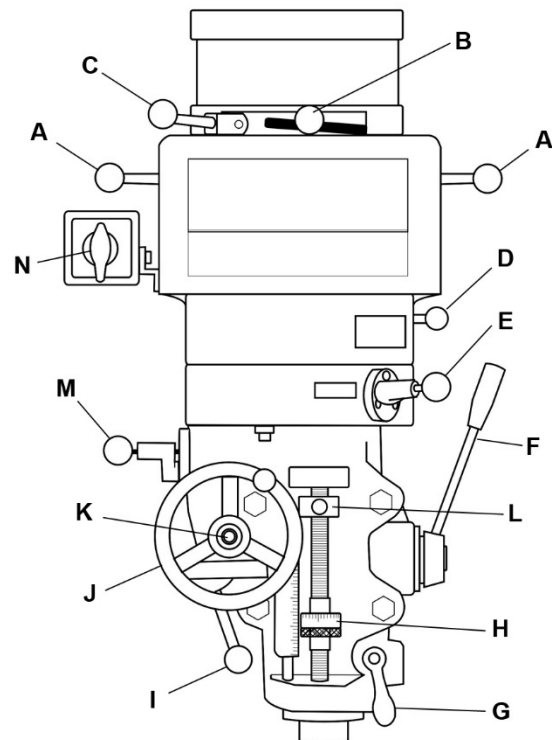

Figure 8
Refer to Figure 8:
- Ensure quill lock (G, Figure 8) is loosened by rotating counterclockwise.
- Set micrometer dial (H) to desired depth.
- Engage auto quill feed lever (D) by pulling out lock knob and moving lever to left hole.
- Select feed rate (M).
- Select feed direction (K).
- Engage feed trip lever (I) by pulling away from head assembly.
**WARNING** Verify that manual fine feed handwheel (J, Figure 8) has been removed for power feeding. Failure to comply may cause injury.
- Loosen knurled lock nut on micrometer nut (H).
- Use Coarse Feed Handle (F) to advance quill to the point where the feed should stop.
- Engage Feed Trip Lever (I) by pulling it away from head assembly.
- Adjust Micrometer Adjusting Nut (H) against Quill Stop (L).
- Continue turning Micrometer Adjusting Nut (H) until Feed Trip Lever (I) trips.
- Tighten Locknut (H).
- Disengage Quill Lock (G) by rotating counterclockwise.
- Start spindle by turning switch (N).
- Set Feed Rate Lever (M) to the feed rate required for the tooling and material used.
- Place Quill Feed Engagement Lever (E) in the Engaged position.
1. Lock spindle by turning spindle brake (C, Figure 8) left or right.